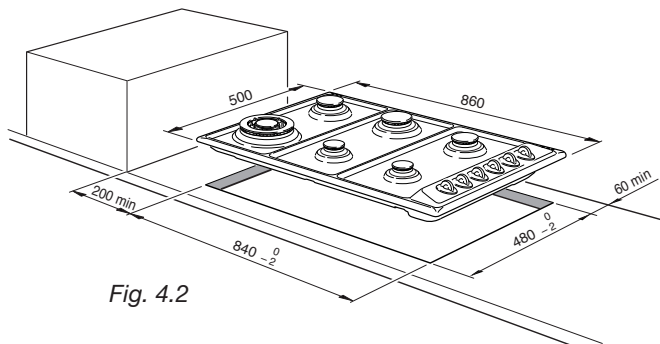

Fig. 4.2
In order to install the cooker top into the kitchen fixture, a hole with the dimensions shown in fig. 4.2 has to be made, bearing in mind the following:
- ✓ the cooker top must be kept no less than 200 mm away from any side wall (fig. 4.2);